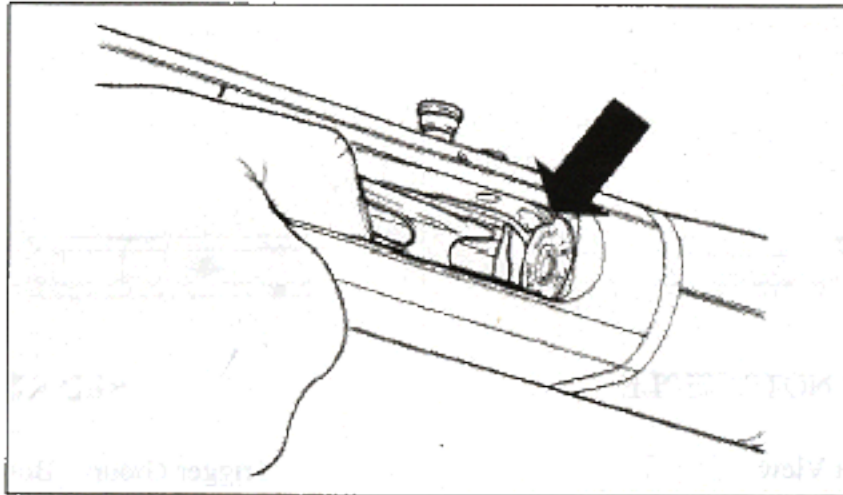
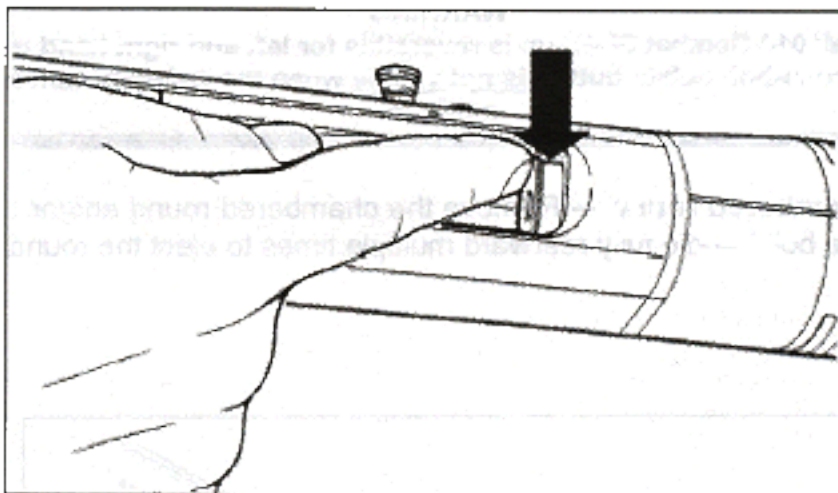

Figure 3. Lifting the shell carrier
Figure 4. Depressing the front end of the shell stop
4. **Empty the magazine (Figures 3 and 4)**
- B. Push in on the shell carrier (**Figure 3**) and depress the front end of the shell stop just behind the base of the shell (**Figure 4**). (The shell stop is located on the left side of the loading port when the weapon is upside down).